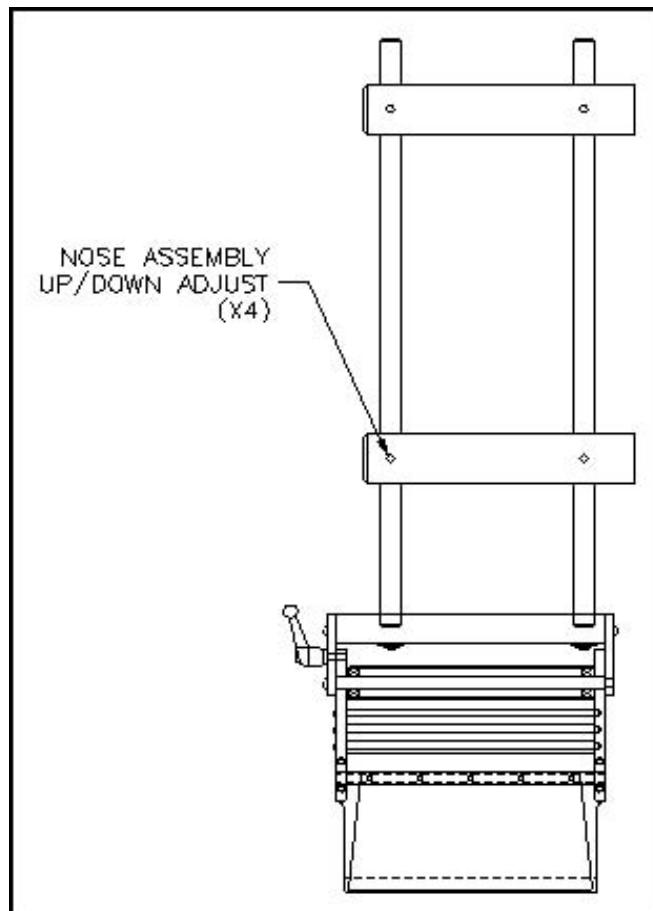

Figure 41 Nose Height Adjustment
3. Position the applicator nose at a 15-25° angle to the side of the conveyor. Adjust the angle by loosening the kip lever shown in Figure 41, moving the peeler plate to the proper angle, and then tighten the kip lever.